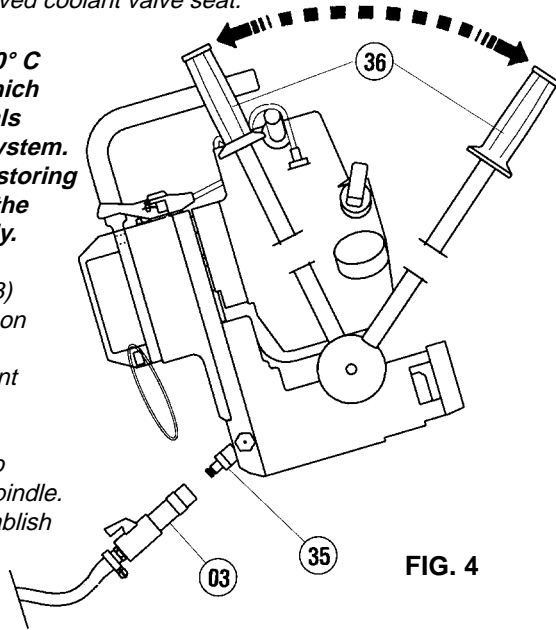

FIG. 4
- When temperatures fall below 0° C the lubrocoolant may freeze which could cause damage to the seals contained in the drill cooling system. It is therefore advisable, when storing the drilling machine, to empty the lubrocoolant system completely. Proceed as follows (Fig. 4):
- Disconnect the quick coupling (03) from the coolant attachment (35) on the drilling machine.
- Operate the advance lever (36) to advance and retract the drilling spindle.